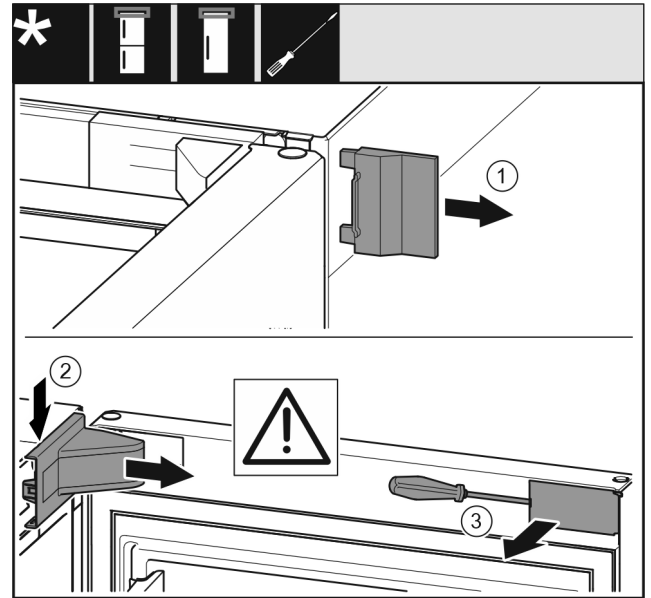

Fig. 6 *
- ▶ Remove the outer cover. Fig. 6 (1)*
- ▶ Disengage and release the bearing bracket cover. Remove the bearing bracket cover. Fig. 6 (2)*
- ▶ Unlatch the panel with a slotted screwdriver and swivel it to one side. Fig. 6 (3)*